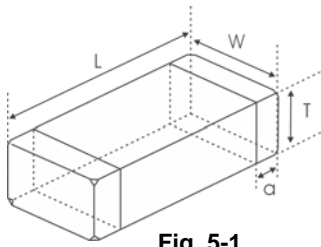
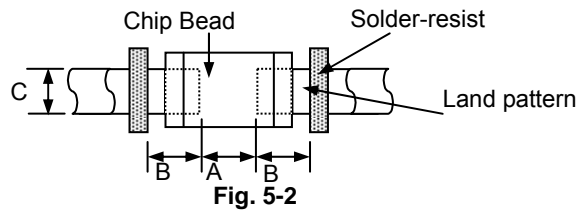

Fig. 5-1
Fig. 5-2
- 1) Dimensions and recommended PCB pattern for reflow soldering: See Fig.5-1, Fig.5-2 and Table 5-1